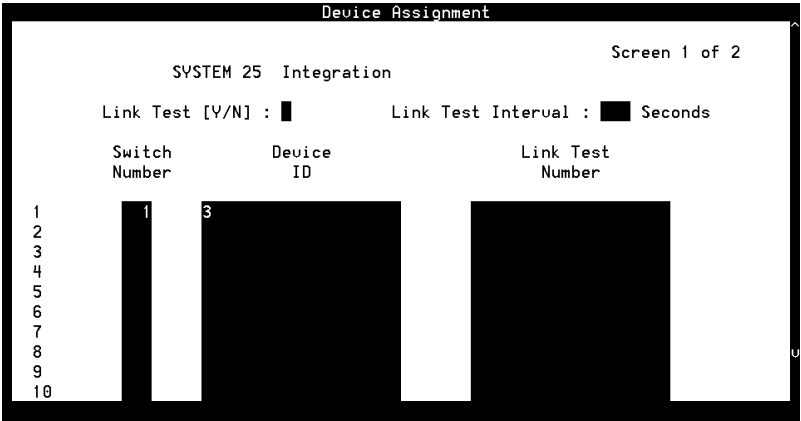

Figure 6-17. Device Assignment Window for System 25
2. The system displays the first of two screens of the Device Assignment window (Figure 6-17).